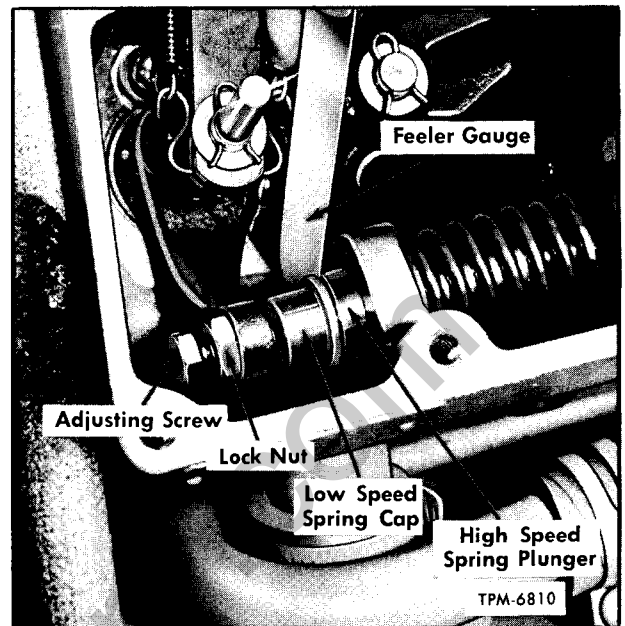

Figure 9—Low Speed Spring Gap Adjustment (Typical)
7. With engine running at specified rpm, measure gap between low speed spring cap and plunger (fig. 9). If there is not a slight drag on a 0.0015" feeler gauge loosen lock nut and turn adjusting screw until desired gap is obtained, then tighten lock nut. Recheck gap after tightening lock nut.